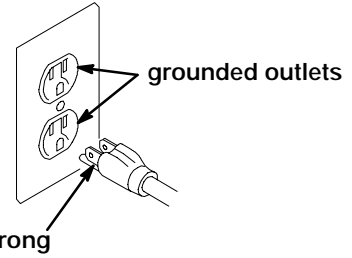

Fig. 1
1. All models require a grounded outlet for power connection. Circuit must be 50–60 Hz with an ampere rating equal to or greater than the sprayer. See Fig. 1.